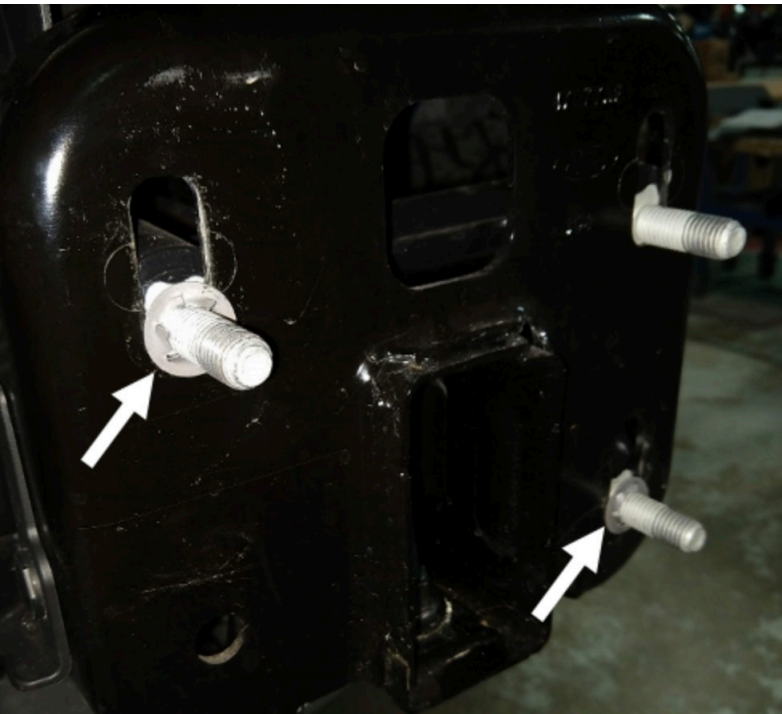

Figure 5
6. Using a flathead screw driver, break off the bolt retaining plates and remove the bolt plates from the frame horn. Repeat this process on the passenger side frame rail. Figure 5.